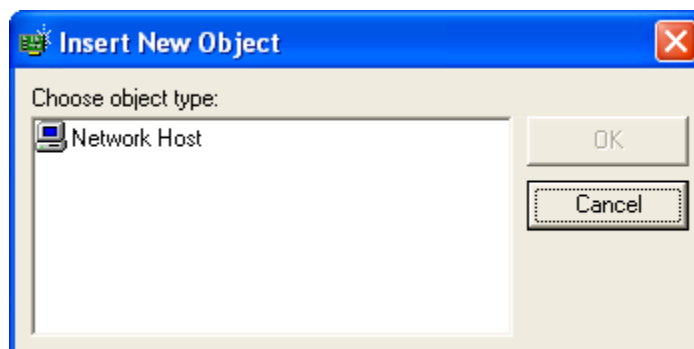

Figure 32 - Insert New Object
- The **Insert New Object** window (Figure 32) appears.